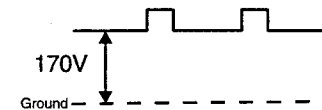

fig. 2.7A
3. Adjust the SCREEN control on the Flyback Transformer to give a voltage of 170V as shown in figure 2.7A.